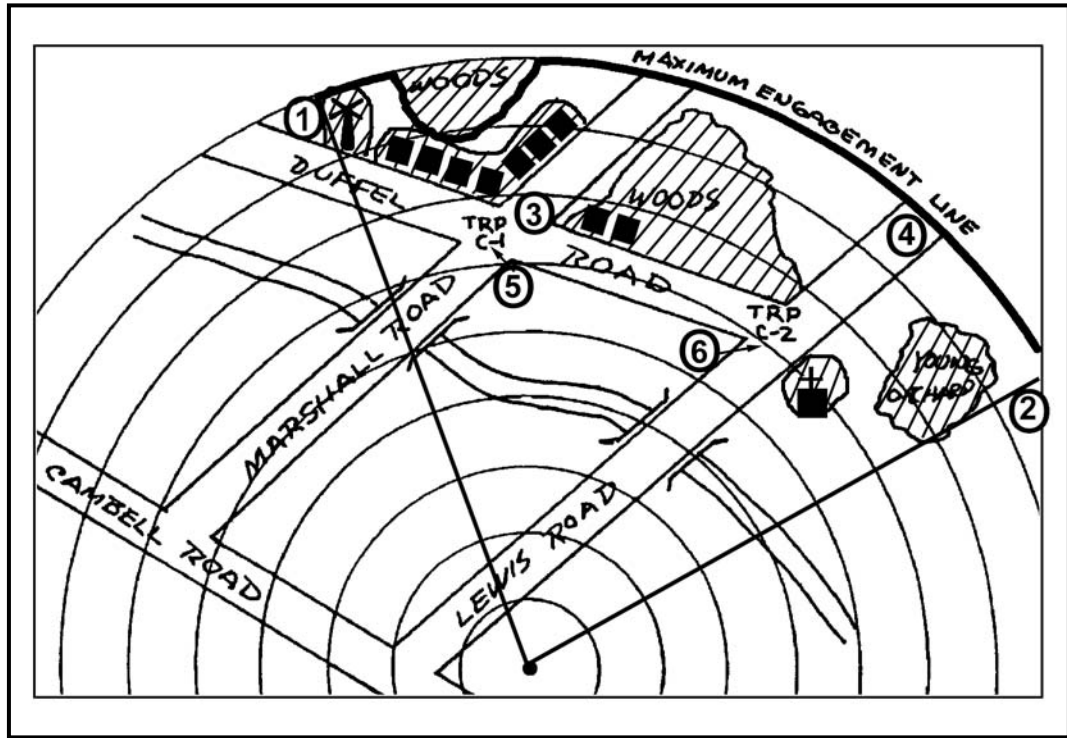

Figure D-7. Dead space indicated.
f. Place diagonal lines, or the words “dead space,” where dead space occurs (Figure D-7, page D-7).